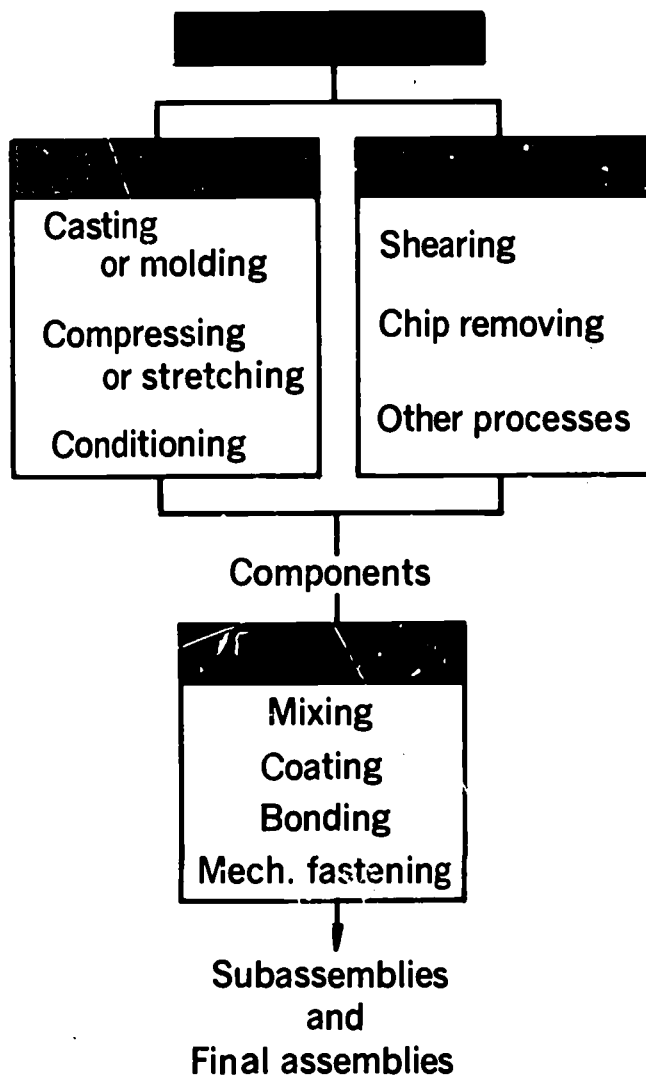

Fig. 91B-1. Production Processes
2. As a group, discuss how a particular component was manufactured. Some components are combined into sub assemblies. See Fig. 91B-1.
1. Your group has received the telephone handset. Notice how it looked as an assembled unit. See Fig. 91B-2.
2. Locate the handset mouthpiece cap. See Fig. 91B-3.